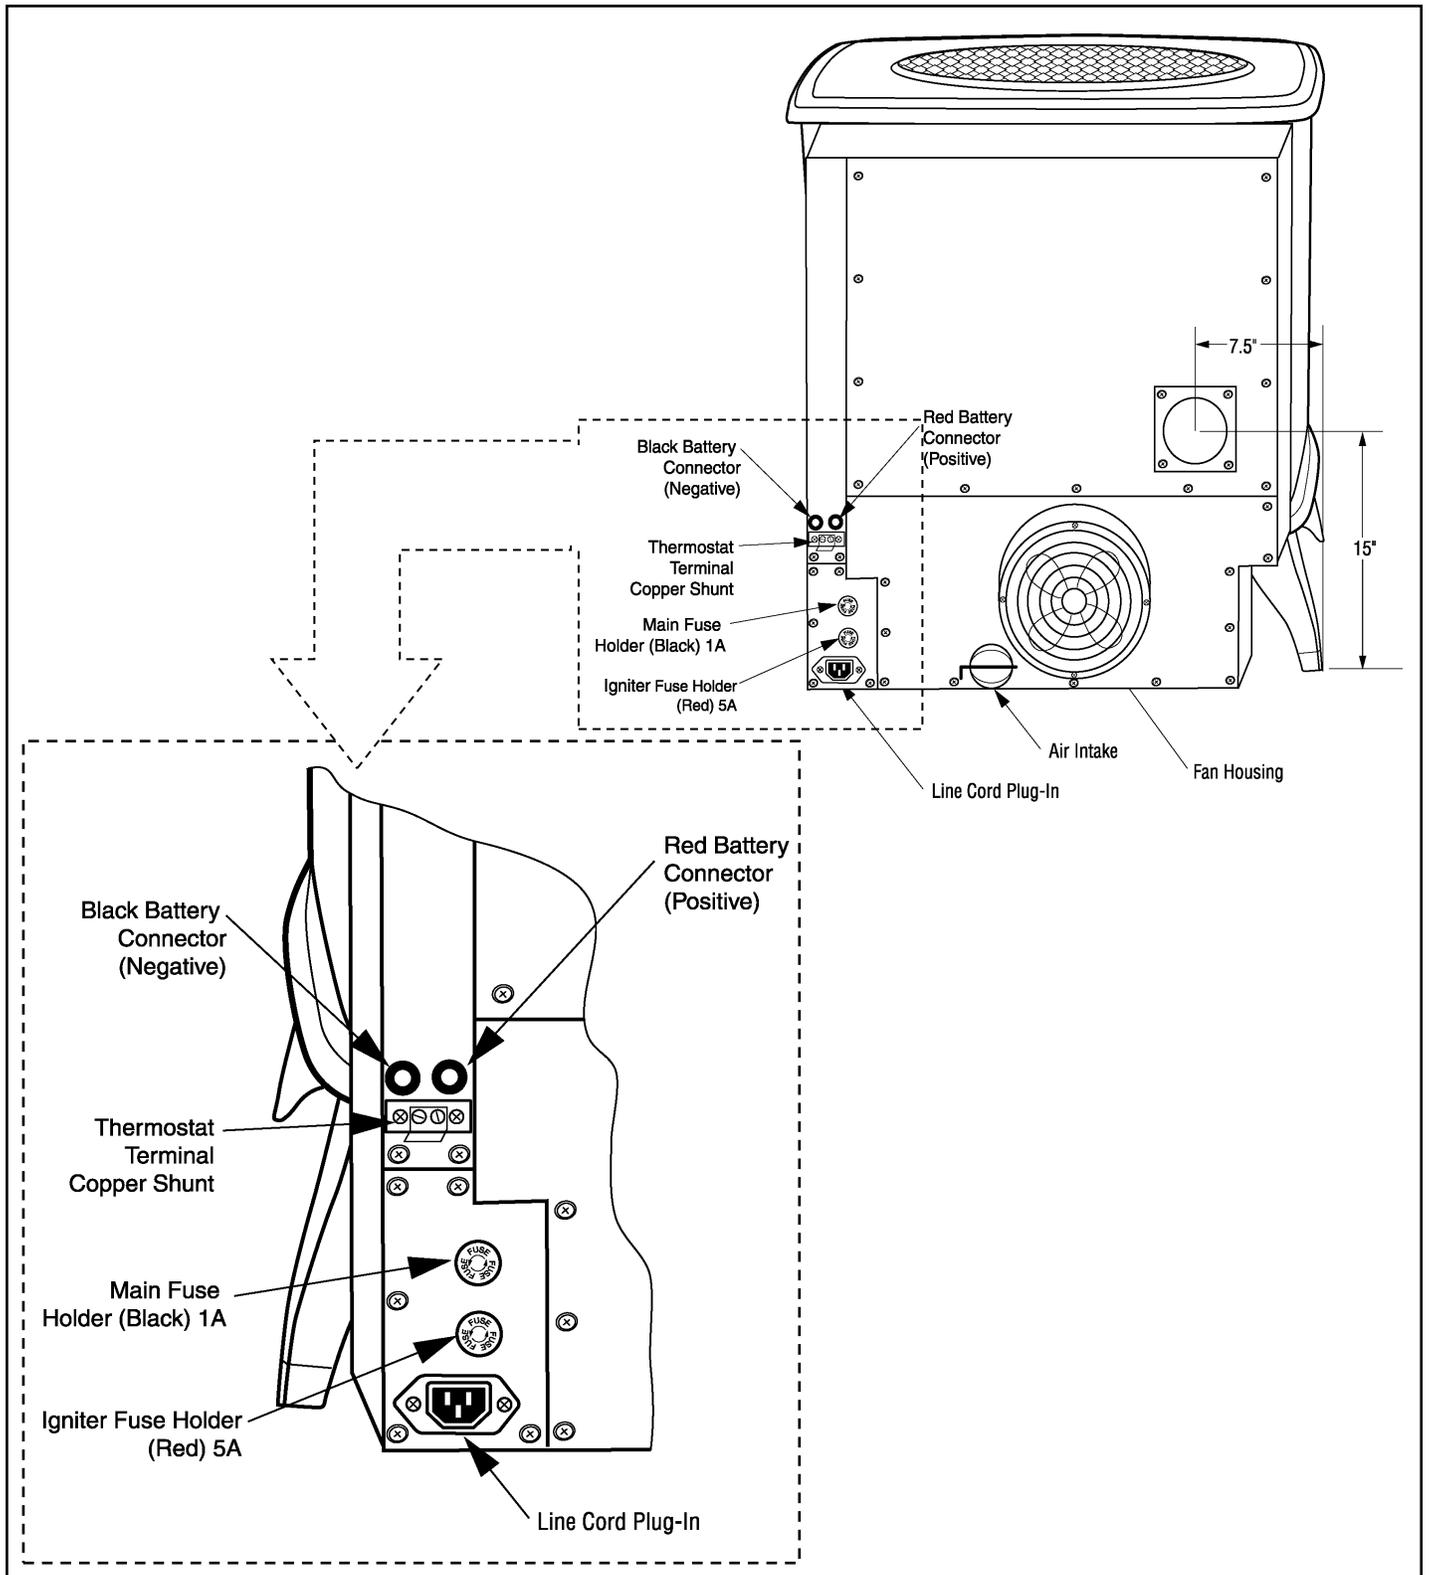

FIGURE 8
A wall or remote thermostat can be hooked to run the Echo 3000 E.I. automatically. The following is a step-by-step procedure for installing the optional thermostat. Note connection terminals on the bottom right side of the unit (see Figure 8). Use 18/2 thermostat wire for installation.
2. Hook up the thermostat wires to terminals (see Figure 8). Remember to remove copper shunt. Replace shunt if thermostat hook-up is disconnected. If a remote thermostat is used you will have to mount the “receiver” to the bottom of the stove with Velcro and then hook up receiver wires to the terminal (see Figure 8). Follow thermostat manufacturer’s instructions.
If you choose to use a wall or remote thermostat follow the thermostat manufacturers instructions carefully and make sure you use the built in thermostat terminals on the bottom of the stove. (See Figure 8) We recommend you run the heater on "High" for about 30 minutes to get the heat exchanger hot before turning it to "Low." You will need to burn the heater for a few hours before deciding which setting is best for your particular needs.